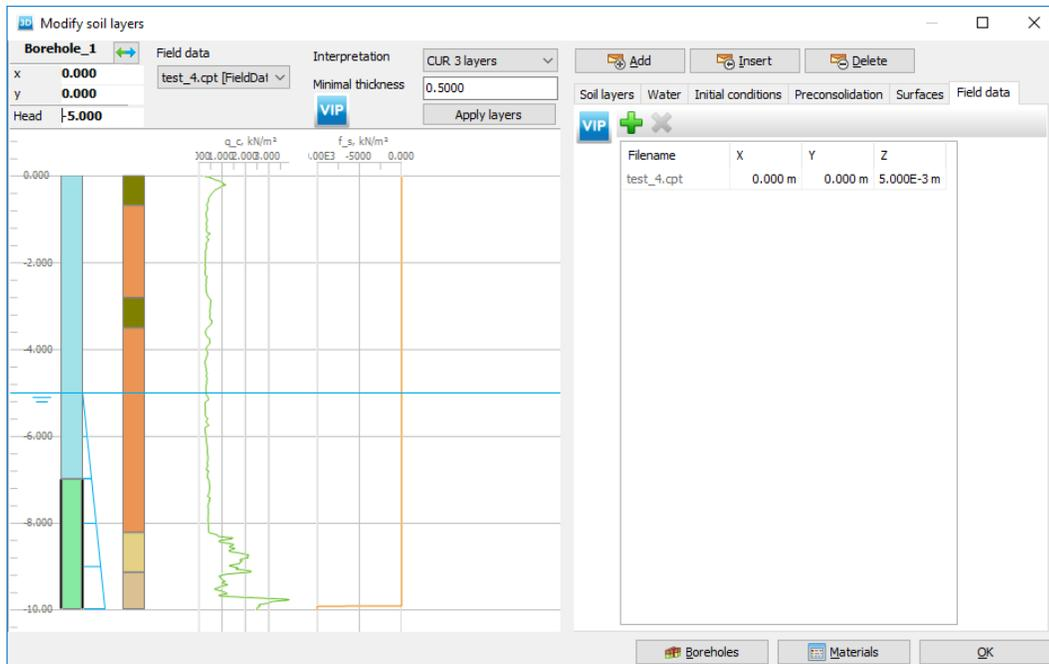

Figure 42: CPT data in the **Modify soil layers** window
- Enter the minimal layer thickness (*Minimal thickness* option) to be considered in layer generation to avoid multiple thin layers. The expanded **Modify soil layers** window is shown in Figure 42: CPT data in the Modify soil layers window (on page 77).